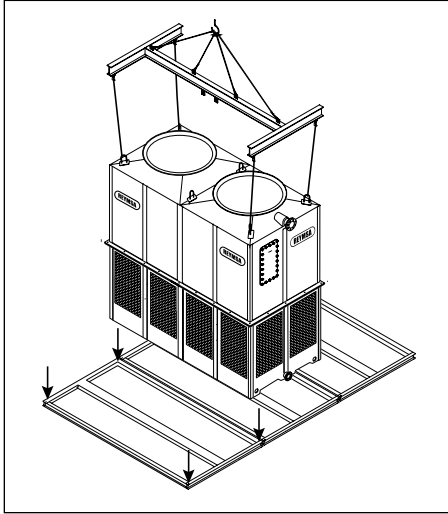
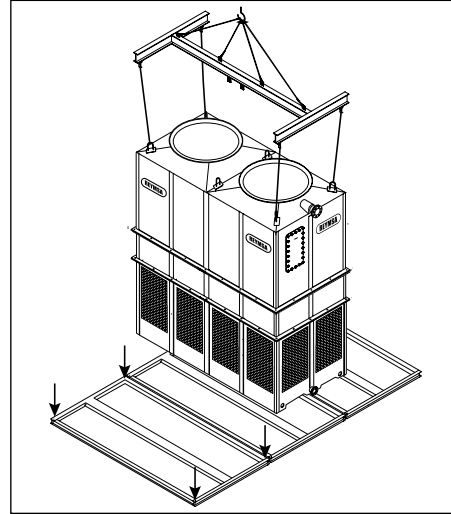

Figure A-61: L-Orientation - First T1 module lifting and installation (RTM-B-L or RTPM-B-L)
Figure A-62: L-Orientation - First T1 module lifting and installation (RTM-D-L or RTPM-D-L)
- A. Once the basin and body sections have been assembled, lift the Tower using a crane and a spreader bar and place it on top of the isolation pad and the steel base structure. Secure it with the galvanized steel nut and bolts sets (supplied by others) as shown on Figure A-61 and Figure A-62.